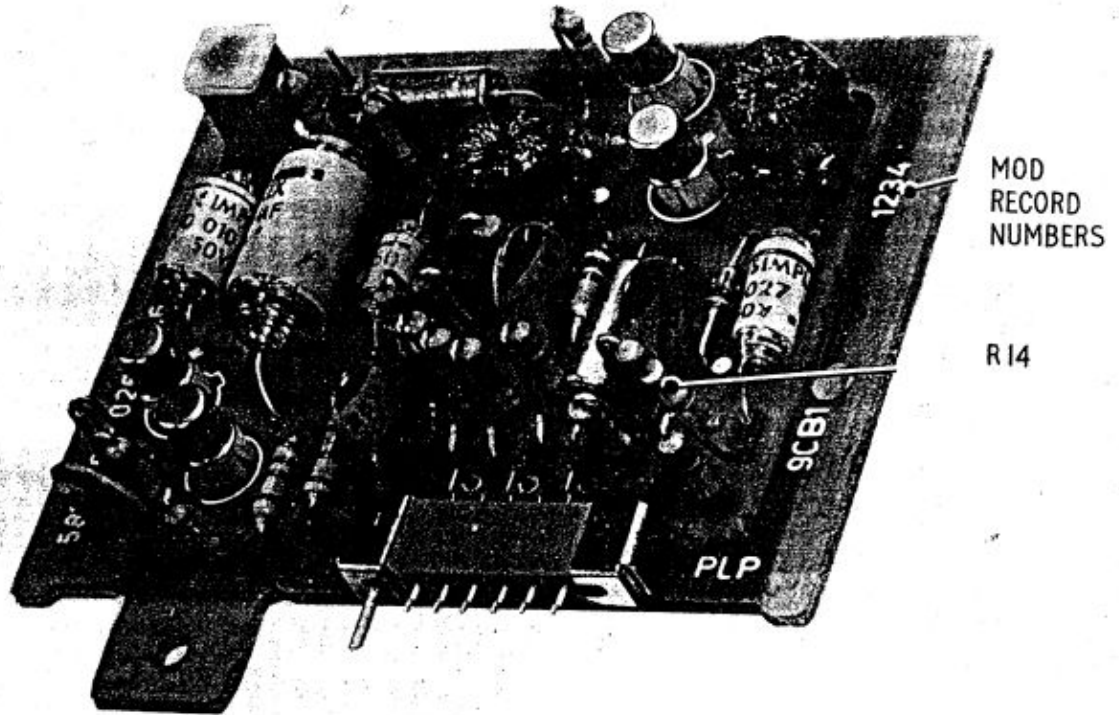

FIG 1 - CIRCUIT BOARD 9CB1 SHOWING POSITION OF RESISTOR R14 AND MODIFICATION RECORD NUMBERS (BEFORE MODIFICATION)
- a. When resistor replacement is complete, carefully scrape away figure 1 stencilled on circuit board 9CB1 (fig 1).